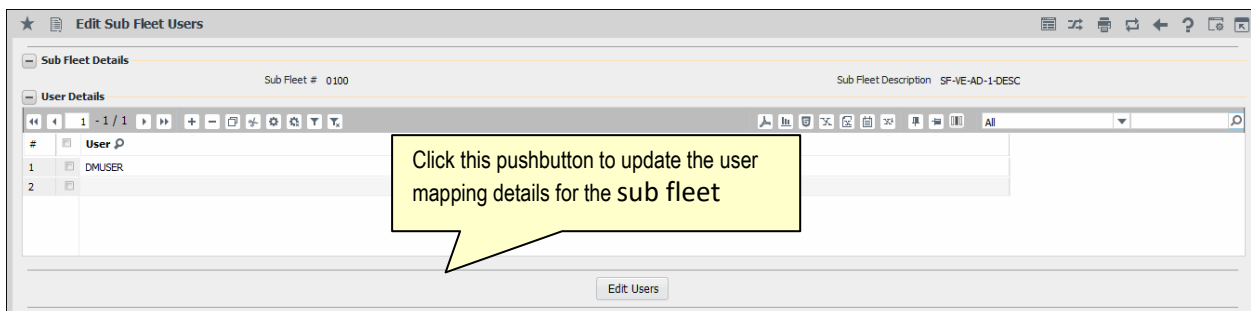

Figure 2.6 Assigning users to sub fleet
1. Select **Edit Sub Fleet Users** link in the **Create Sub Fleet** or **Edit Sub Fleet** page. The **Edit Sub Fleet Users** page appears. See Figure 2.6.